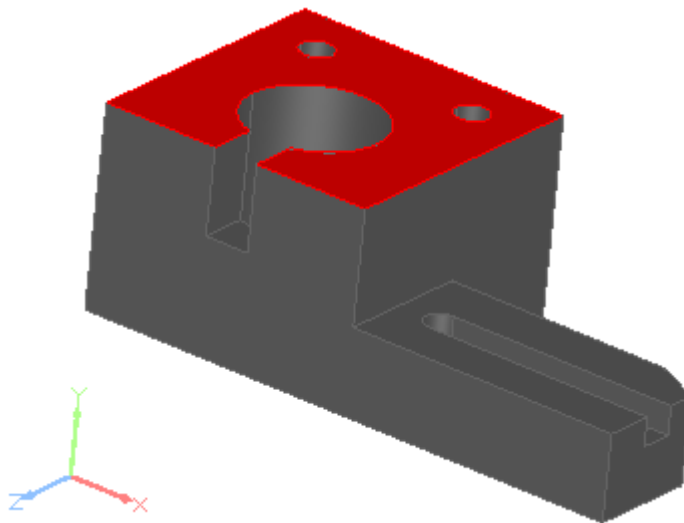

Figure 1. Selected surface on which annotation plane should be created
- Select a planar surface in the  **3D View** to create an annotation plane, which is on the selected surface (see Figure 1). **Note.** It is not required selection. In case no planar surface is selected, more parameters have to be entered manually.